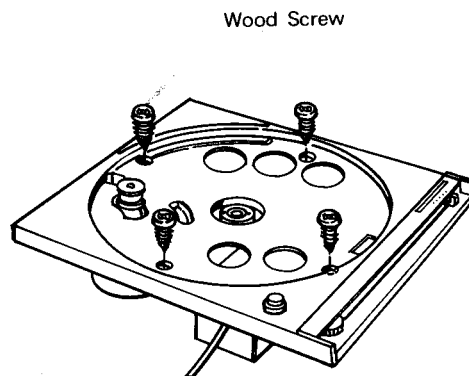
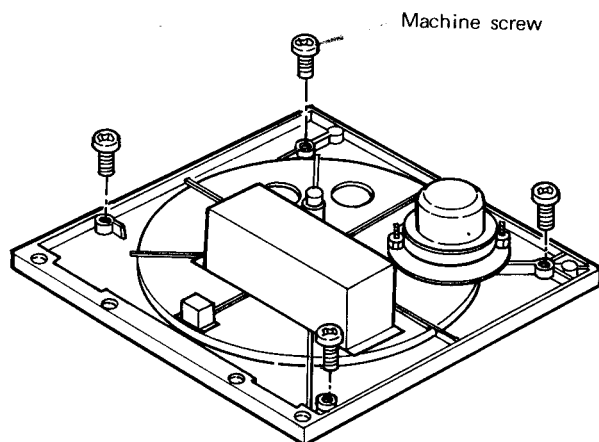

Fig. 2-2 Turntable-base removal
Fig. 2-3 Turntable-base removal
2. The turntable base is secured to the wooden case or the motor board in one of two ways: By four wood screws inserted from the top of the cast turntable base as shown in Fig. 2-2, or by four machine screws threaded into the base from the bottom of the motor board as shown in Fig. 2-3. Remove the four mounting screws and carefully lift up the turntable base.